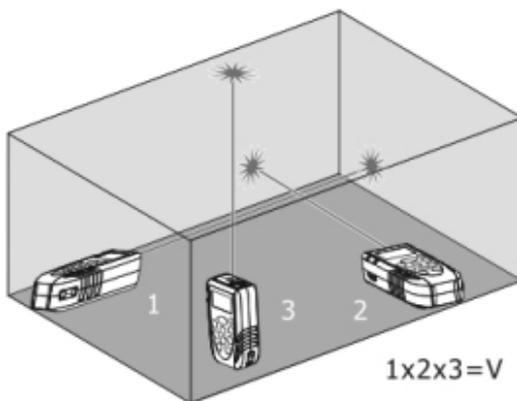

Fig. 8: Example of volume measurement
3. Press the key or the side **MEAS** key to perform the first measurement (length) of the surface (see Fig. 8). The corresponding value appears on the first partial display. The symbol appears on the display with side "1" flashing
4. Press the key or the side **MEAS** key to perform the second measurement (width) of the surface (see Fig. 8). The corresponding value appears on the second partial display. The value of the corresponding area is shown on the resulting display. The symbol appears on the display with side "2" flashing
5. Press the key or the side **MEAS** key again to perform the third measurement (height) (see Fig. 8). The total value of volume is shown on the main resulting display